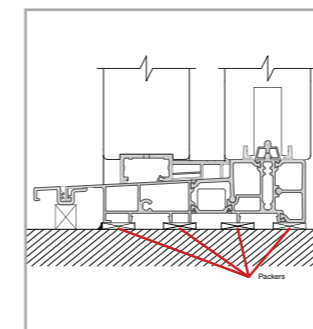

Figure 20: Packing locations to support a door cill
Step 3 - If the door frame is fitted with an extended cill it is important to check that it is adequately supported as shown in Figure 20.